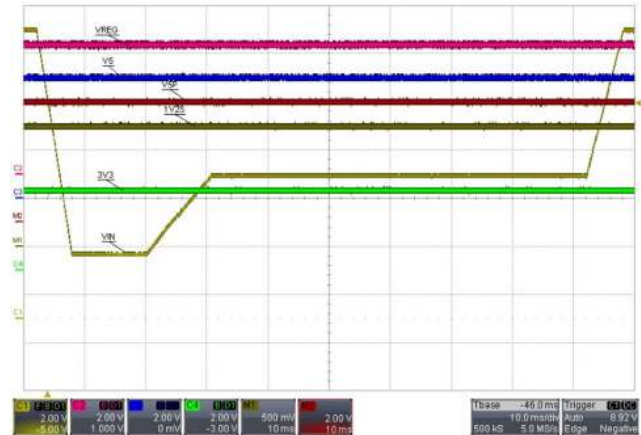
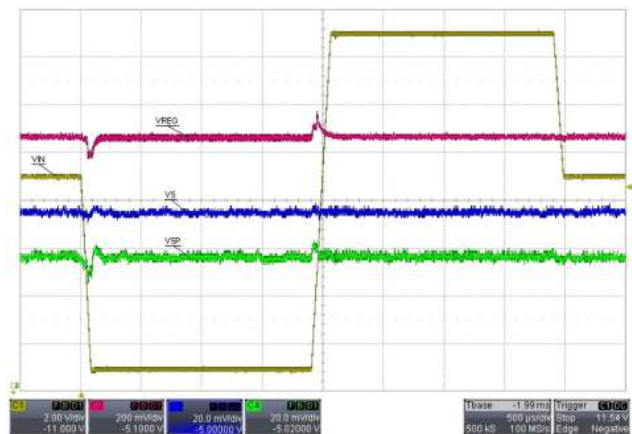
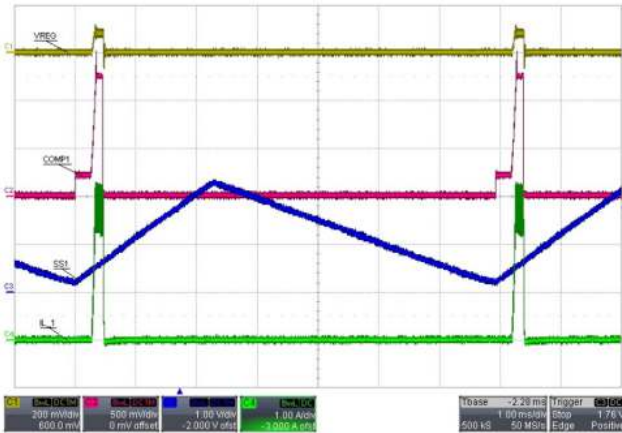

Figure 5: A4408 Buck-Boost operation at full load V_{VIN} slew rates ranging from 0.3 V/ms to 1.6 V/ms Typical of an automotive START/STOP waveform
Figure 6: A4408 Buck-Boost operation at full load V_{VIN} slew rates of 100 V/ms – V5P deviates less than 0.2%
Figure 7: Pre-Regulator Hiccup Mode Operation when VREG is Shorted to GND and $C_{SS1} = 22$ nF
The A4408 can maintain its outputs over a wide range of input voltages and slew rates. Actual boost performance is shown in Figure 5 and Figure 6 with voltages swinging between 2.9 and 18 V, and V_{VIN} slew rates ranging from 0.3 to 100V/ms.
6. Hiccup short circuit protection – lab measurement shown in Figure 7 and detailed timing diagram shown in Figure 5